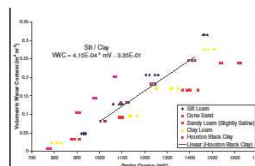

Fig. 1. ECH2O 20 cm probe calibration with 5V Excitation
**ECH2O 20 cm Probes:** Comparing data from the 2.5V (in echo\_analysis.pdf) and 5V calibrations (Fig. 1) indicates there may be slightly higher variability in the 5V calibration with respect to soil type compared to 2.5 V, but it may not be enough to matter.
Fig. 1. also shows the calibration equation that can be used to convert millivolts (mV) into VWC ( $WWC = 4.15E-4 * mV - 0.335$ ). This equation will work well for fine textured soils. For soils with significant amounts of sand (sandy loam to sand) as well as soils that have saturation extract electrical conductivities of (ECs) greater than -1 dS/m, we strongly recommend a soil specific calibration.